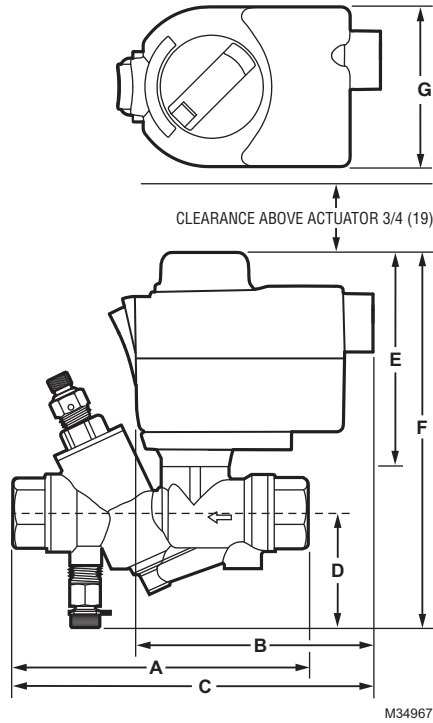

Fig. 1. Valve Dimensions with MVN Actuator; see Table 5.
- Noise Rating at 1m (Maximum):** 35 dB(A) max at 1 m [50 dB(A) for MVN643].
- Dimensions:** See Fig. 1 and Table 5.